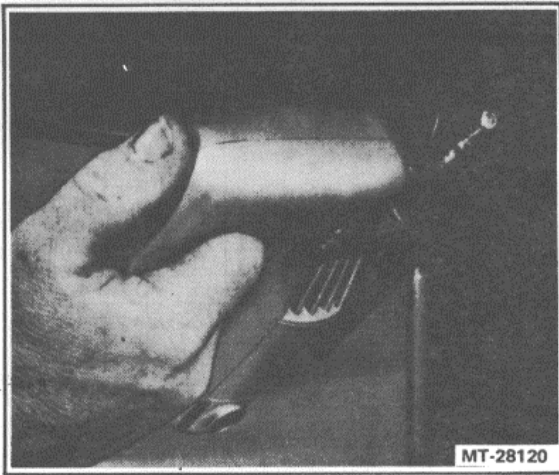
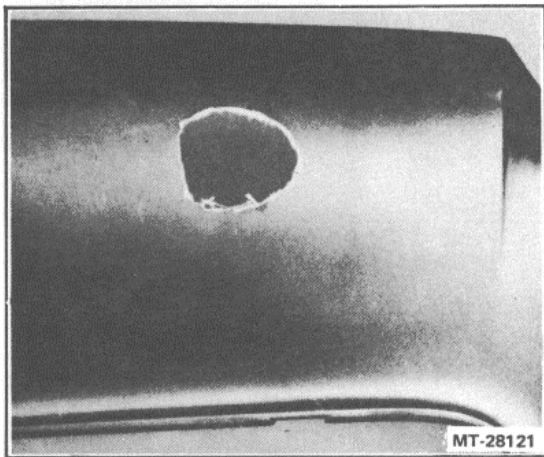

Figure 21. - Opening Cracked Area
Figure 22. - Small Fracture - Damaged Material Removed
1. Using a tapered bit or a saber saw, remove the cracked and flaked fiber glass surrounding the damaged area. For cracks, remove enough material so that there is an open gap at least 1/8 inch wide (Figure 21). For small and large fractures, cut away as much material as is required to provide a solid edge (Figures 22 and 23).